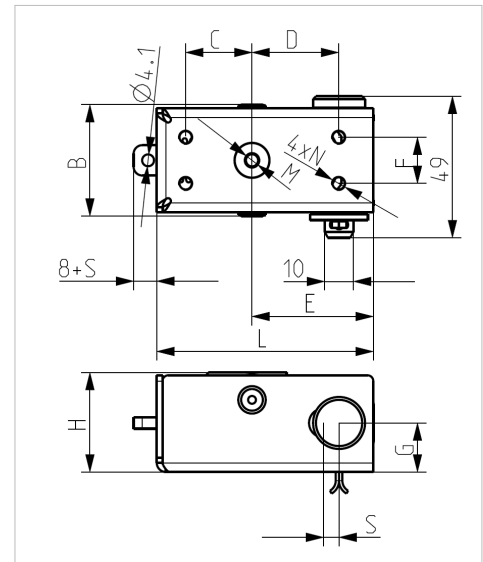

Figure 7: dimensional drawing
- 1) **Base attachment:** Secure the locking mechanism from below using the designated mounting holes (M and N - Figure 7/Table 1). The screw length must be chosen so that the screws do not interfere with the internal movement mechanism.